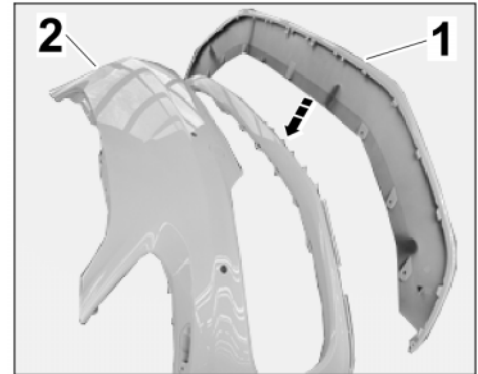

Figure 14
3.1.1 Install front spoiler (lower part) in the front apron with the help of another person (⇒ *Figure 14*).